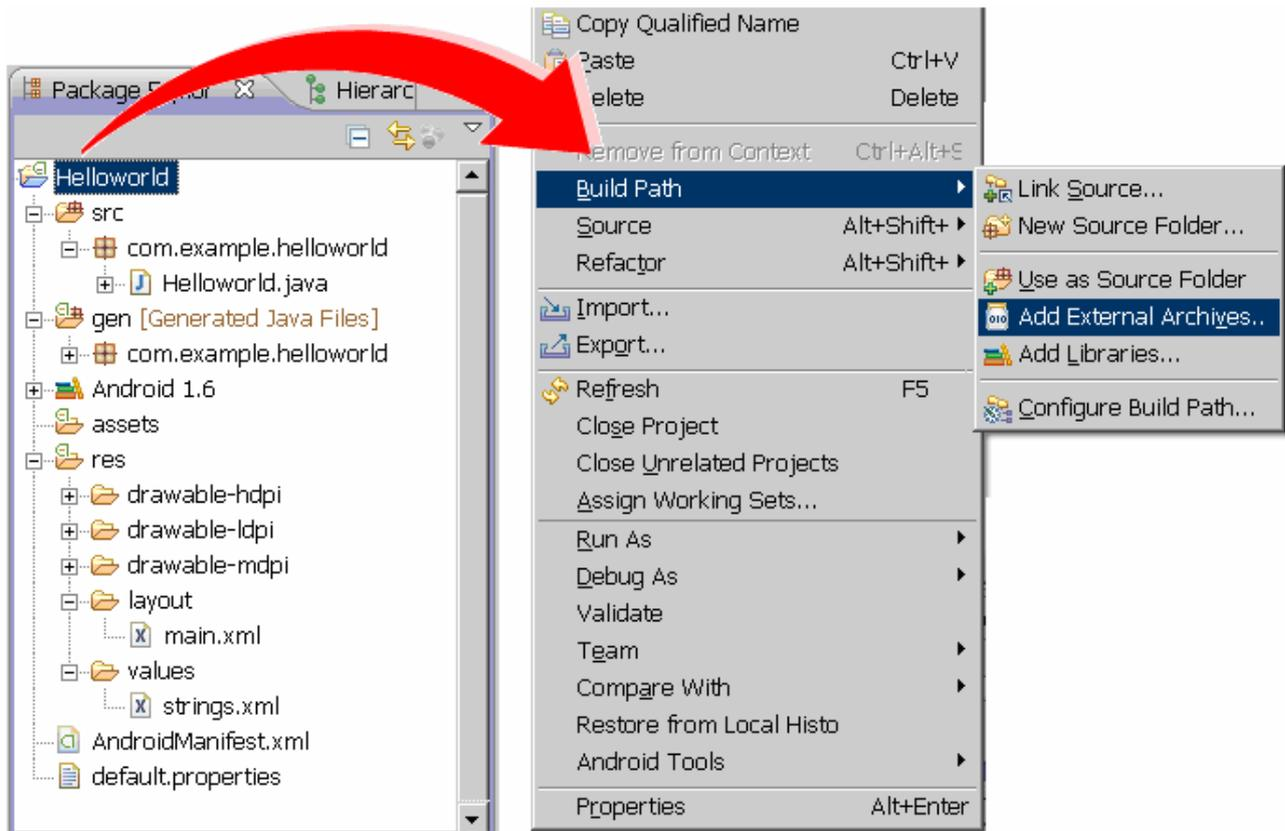

Fig.5-6
STEP 2: Select **Add External Archives**. (refer to Fig.5-6)